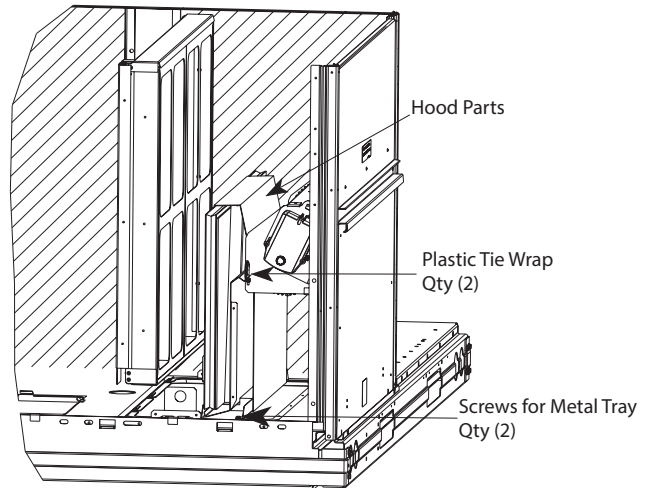

Fig. 15 — Economizer and Two Position Damper Hood Package Location (Two Position Damper Only for Size 16)
3. Locate the (2) screws holding the metal tray to the basepan and remove. Locate and cut the (2) plastic tie-wraps securing the assembly to the damper (see Fig. 15). Be careful to not damage any wiring or cut tie-wraps securing any wiring. The indoor coil access panel will be used as the top of the damper hood. Remove the screws along the sides and bottom of the indoor coil access panel.